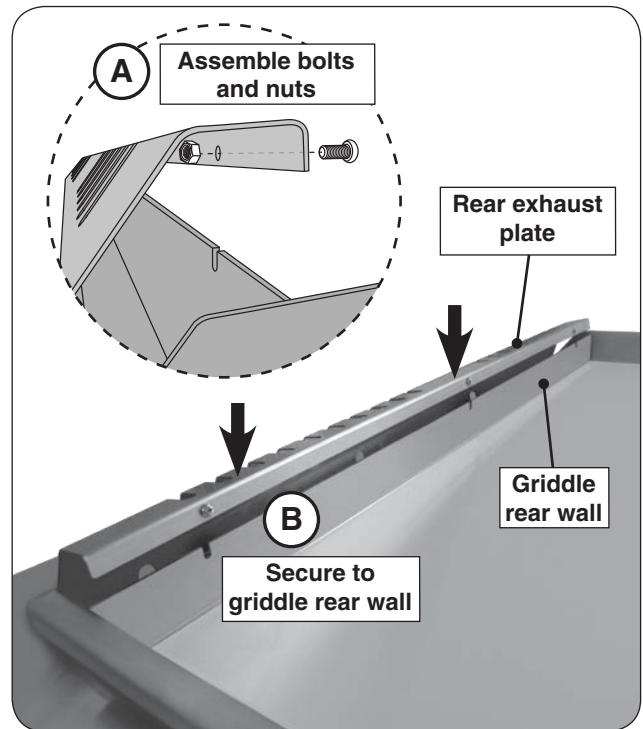

Fig. 23-3 Install rear exhaust plate
1. Assemble the provided bolts and nuts (loosely) to the three holes on the rear exhaust plate as shown in Fig. 23-3, A.
2. Align the exhaust plate with the three cutouts on the griddle rear wall and fasten (see Fig. 23-3, B).